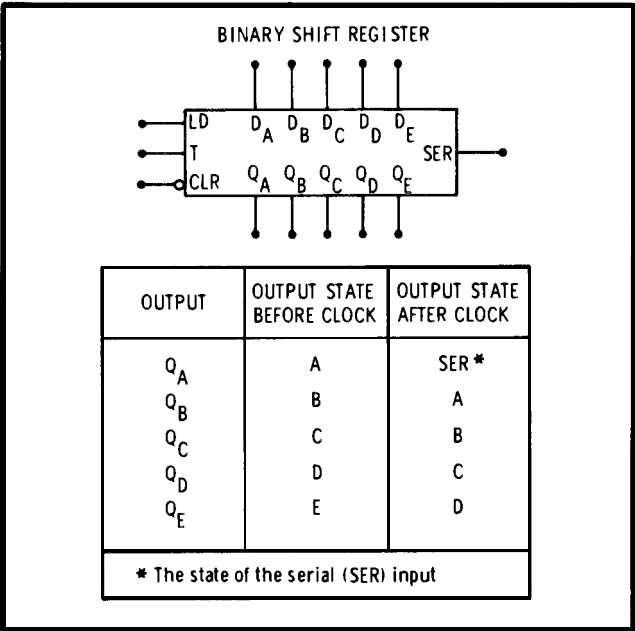

Figure 8-11. Binary Shift Register
**8-57. Binary Shift Register.** A five bit binary shift register is shown in Figure 8-11. Information of the data (Dn)\* inputs is transferred to the respective Qn \* outputs when the load (LD) input is high. The load input is independent of the clock (T) input.